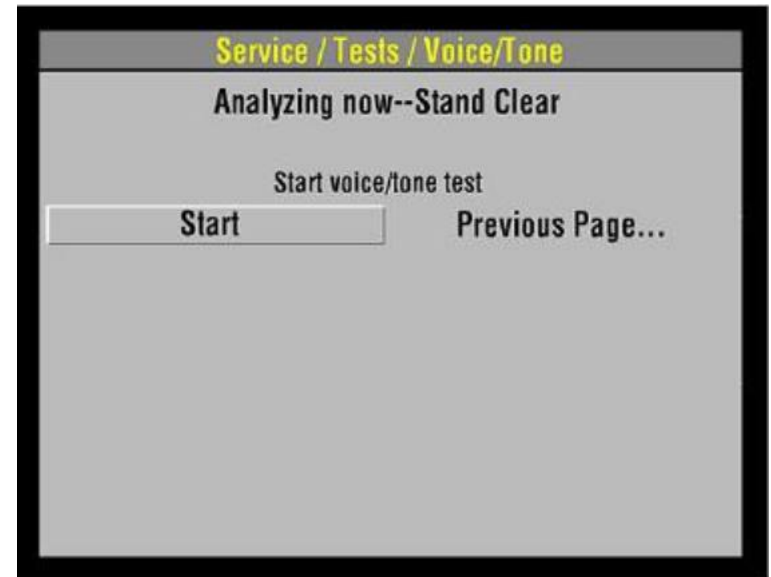

Figure 1.8: Audio Test
1. Select **VOICE/TONE** from the Service/Tests submenu as shown in Figure 1.8.